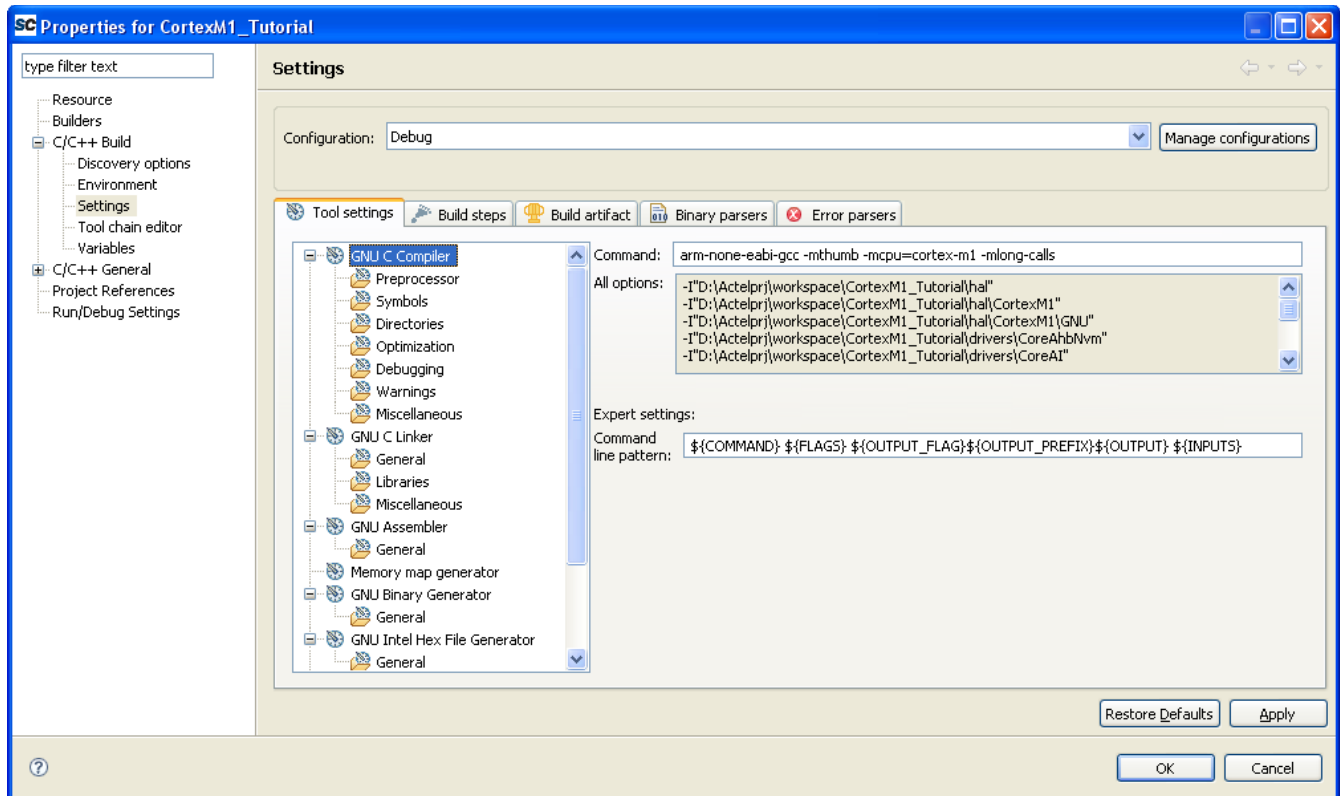

Figure 4-5 · Setting `-mlong-calls` Compiler Flag
3. Add `-mlong-calls` at the end of the command, as shown in Figure 4-5.